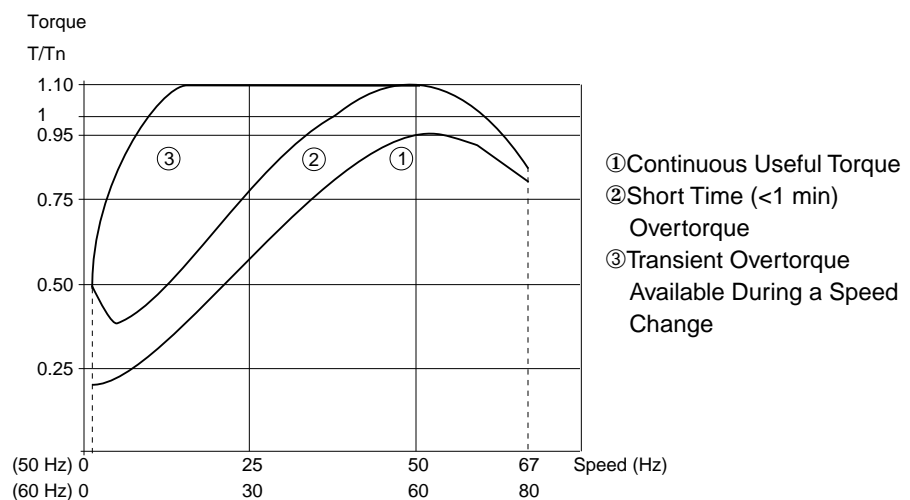
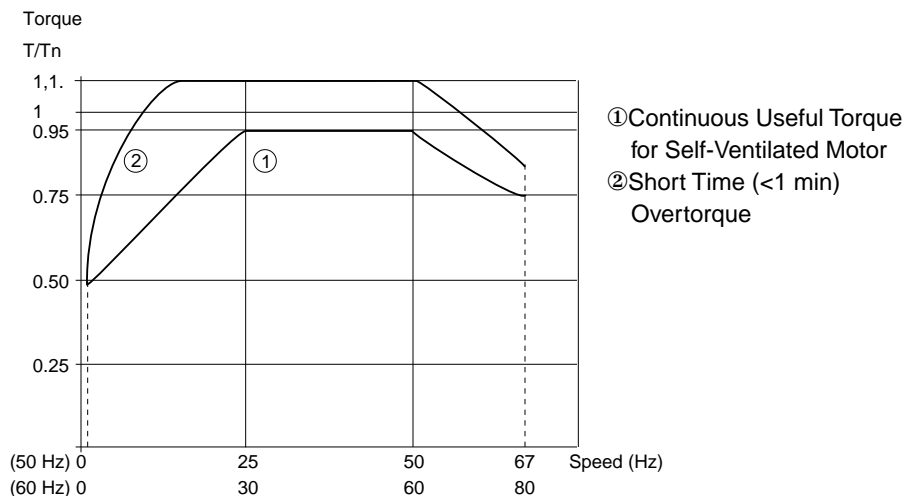

Figure 2-23 Operation with Quadratic Torque Load
Figure 2-24 Operation with Constant Torque Load
Figure 2-23 and Figure 2-24 illustrate typical continuous torque and overtorque driving capability for a typical self-ventilated NEMA Design B, 1.0 service factor motor whose no-load current is less than 58% of the motor rated current. In Figure 2-23, the motor is operated with reduced V/f excitation while in Figure 2-24 the motor is operated with constant V/f excitation. In addition, the controller rated output current is greater than or equal to the motor nameplate current and the controller transient output current capability is no less than 110% of controller rated output current.
- Supply the transient overtorque needed for the required accelerations (see Figure 2-23 on page 38 and Figure 2-24 on page 39.)